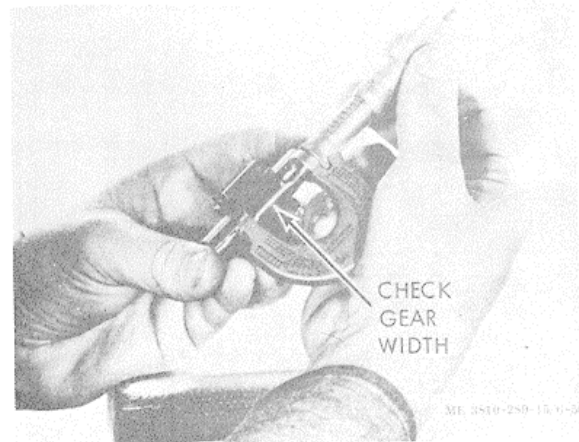

Figure 3-59. Gear width check.
(1) Check pump shafts for wear or scoring; discard if damaged. Replace shaft if worn smaller the 0.4998/0.5001 inch diameter.
(2) Check gear width (table 2-2). If gears are scored or worn badly, the gears must be replaced (fig. 3-59).